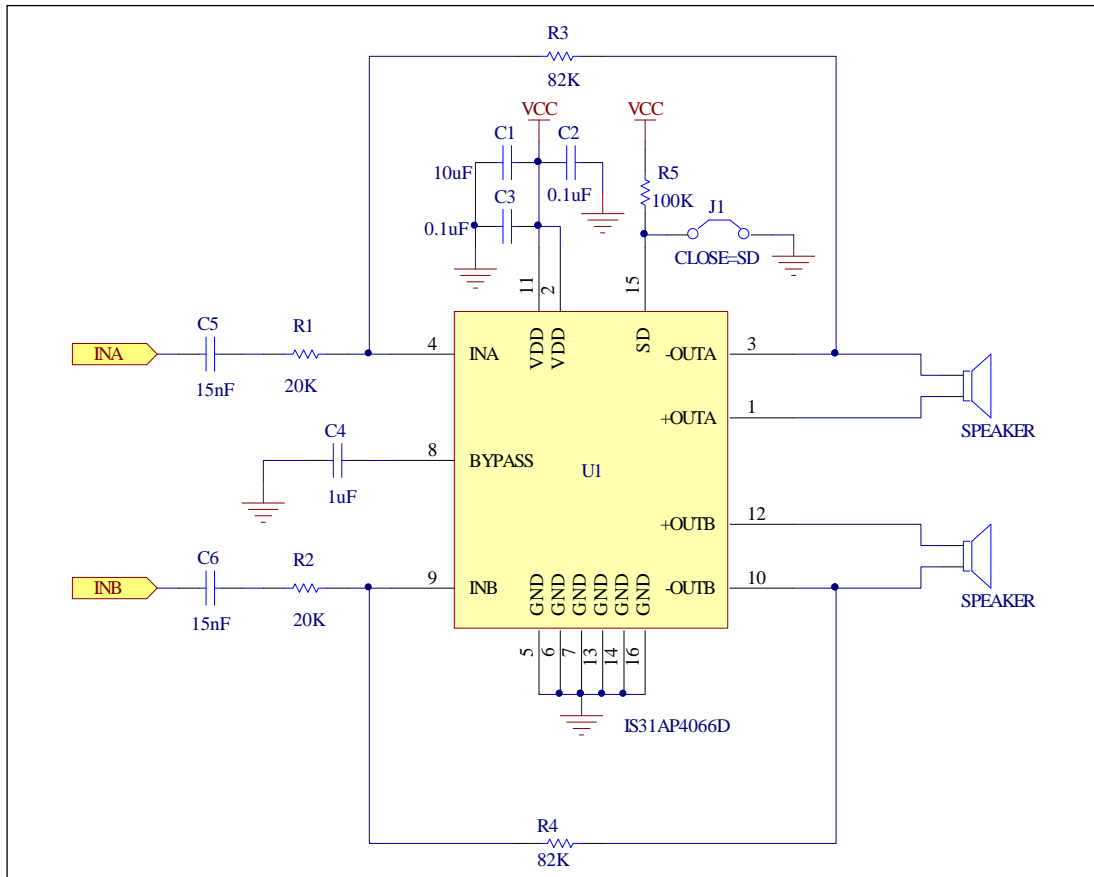

Figure 2: IS31AP4066D Application Circuit
*Bill of materials, refers to Figure 2 above.*